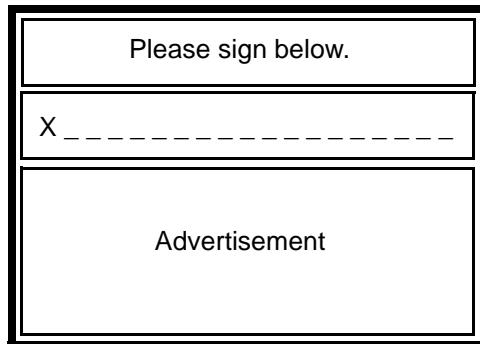

Figure 2-49 *SIGNATURE1 screen layout*
3. Copy the SIGNATURE screen you created in the previous step, rename it SIGNATURE1, and move the signature box to a different location. In this example, the signature box is positioned toward the top of the screen (*Figure 2-49*):